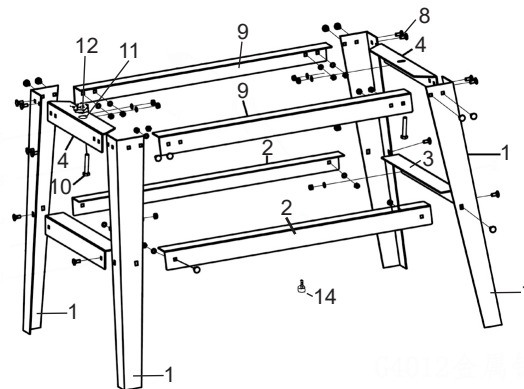

fig.1
NOTE: Numbered brackets refer to Fig 1 and Parts Diagram
- 4.1.1. Assemble the floor stand as described below using the nuts and bolts provided (refer to Fig 1).